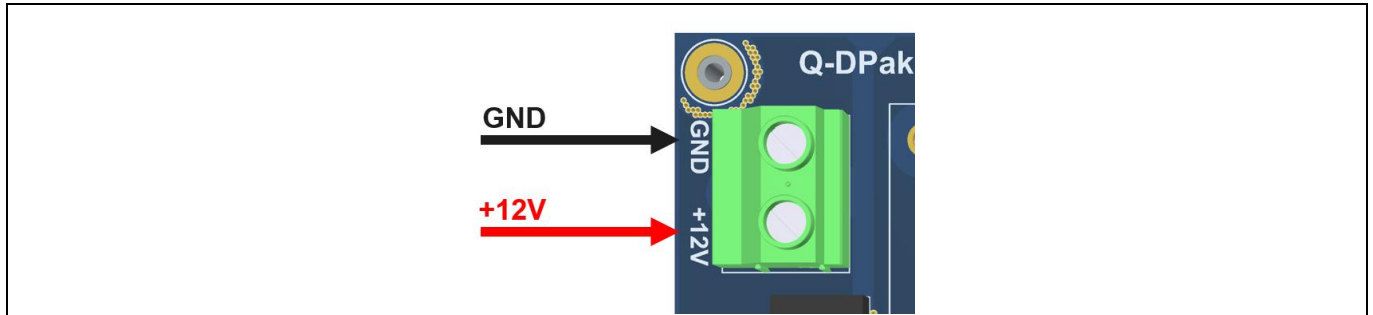

Figure 5 Supply 12 V on connector “X0” as shown above
1. Supply the 12 V DC (low voltage; LV) on the X0 terminal. Ensure the correct polarity as shown in Figure 5